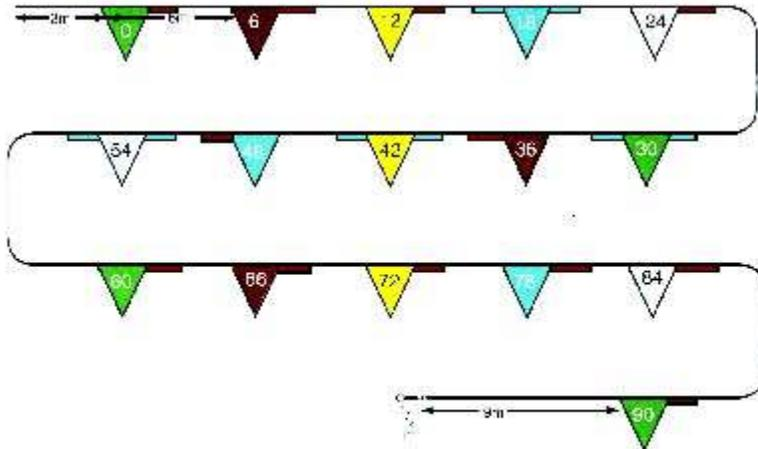

Figure 9.4-1 - Distance Line Showing Position of Day and Night Markings
- (1) Initial alongside in fair weather for passing gear and hooking up is 30 m. This should be increased to 36 m in adverse weather conditions.
- (2) When hookup is complete and delivery started, the receiving ship should ease out to 36 m in fair weather and up to 45 m in adverse weather. For personnel transfers, 24 - 30 m is recommended.
- (3) During the breakaway sequence, since the AOR spanwire/highline cannot be paid out after the wires are detensioned, the receiving ship should ease toward the AOR 4 - 6 m to ensure that all residual tension due to friction through the running rigging is relieved, and remain there until all gear including the distance line is clear of the ship's side.
- a. For abeam transfers, the distance between ships is measured by a distance line, which has a coloured marker flag every 6 m (see Figure 9.4-1). The zero metre end is secured to a strong point on the guide ship, with the other end being manned and kept taut by the receiving ship. The distance line is positioned so that it is visible from the bridge and is at a right angle to the centre line. The characteristics for the distance line are:
- (1) Line 103 m of 13 mm 3-strand polypropylene with an Ingle field clip at each end. The core of the line is a ship-to-ship phone cable complete with three terminals, which is for bridge-to-bridge and station-to-station communications.
- (2) Marker Flags 230 mm canvas rectangles painted sequentially green, red, yellow, blue and white. The numbers, which are painted on both sides of the rectangle, have a minimum height of 75 mm. The numbers on the white and yellow rectangles are black, while those on other rectangles are white.